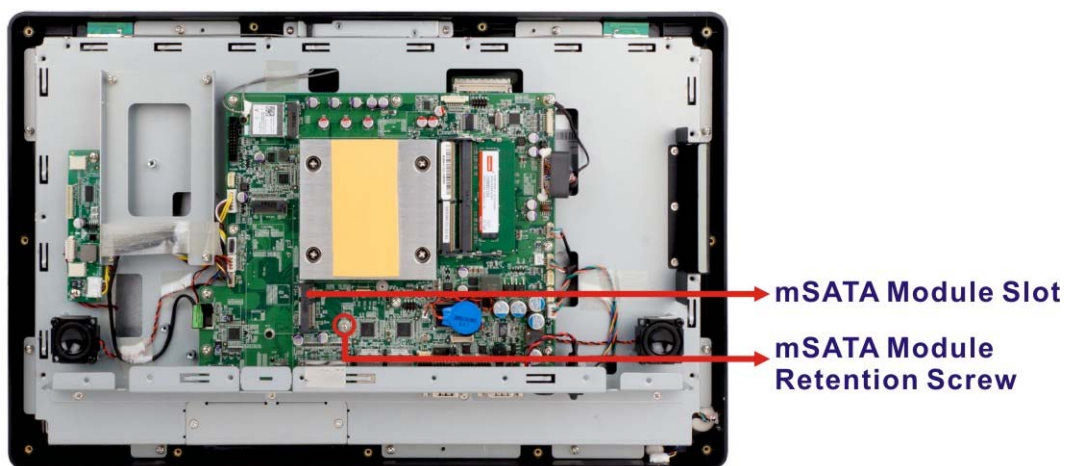

Figure 3-9: mSATA Module Slot Location
- Step 2:** Locate the mSATA module slot. Remove the preinstalled retention screw on the screw pillar as shown in **Figure 3-9**.